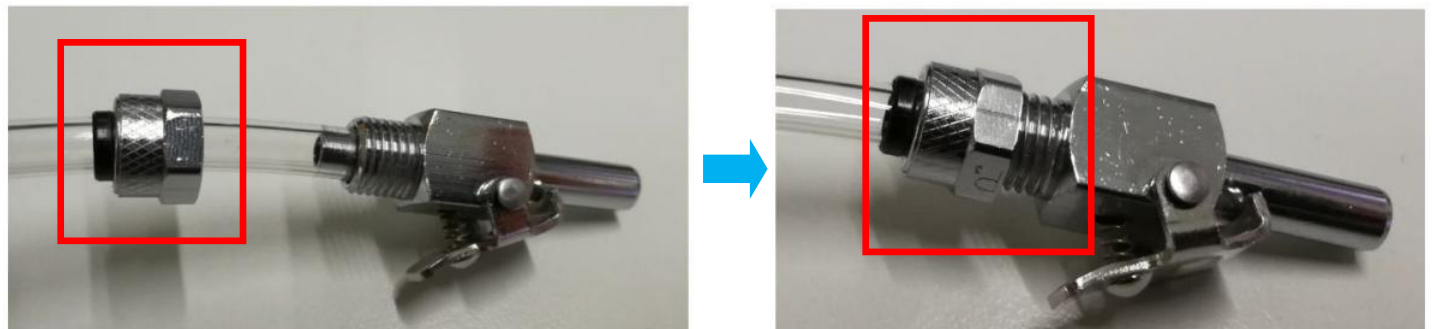

Figure 15
17. Gently slide the nut through tubing. Tighten the nut. May refer to Figure 15.